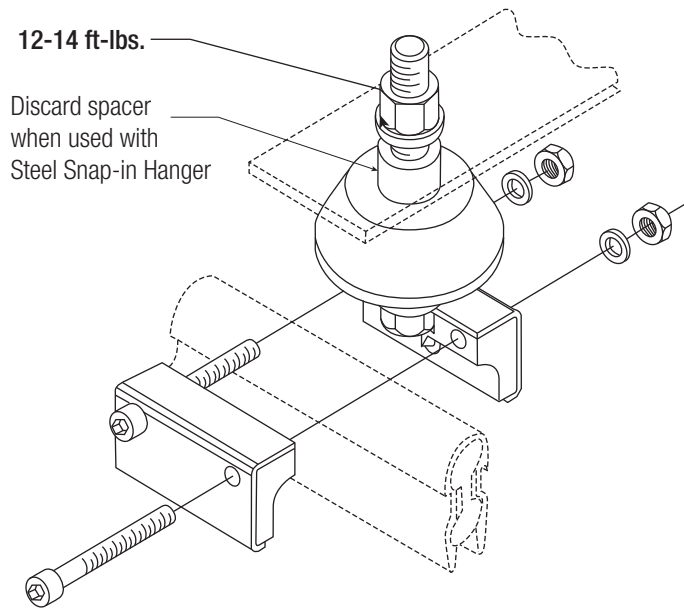

Figure: 8-3
8.2.2 Cross-bolt hangers can be used as anchors on systems without expansion sections. On systems with expansion sections it is recommended that anchor clamps be used. Proper torque for anchor clamp cross bolts is 12-14 ft-lbs. See **Figure 8-3**.